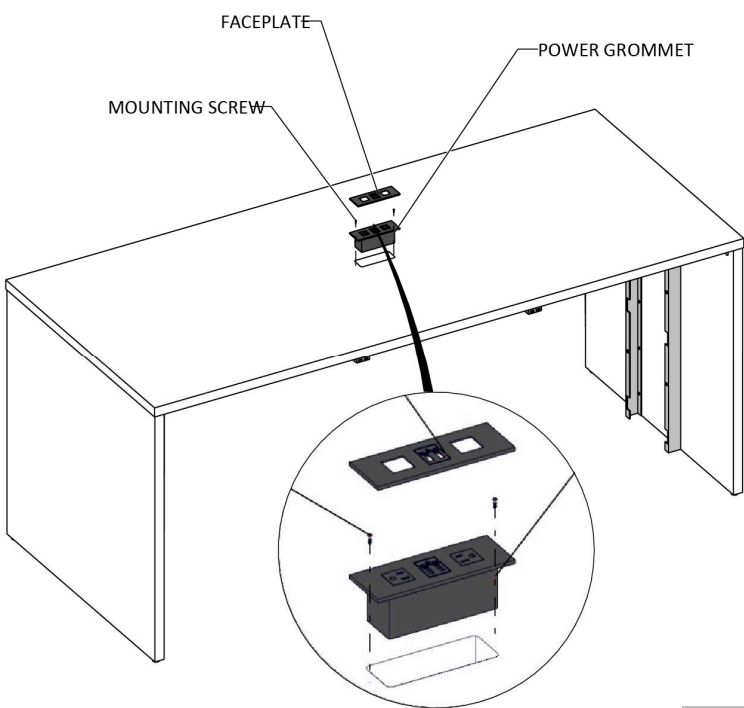

Figure 13
31. Set the power grommet into the hole and then secure it with mounting screws provided, (Figure 13).